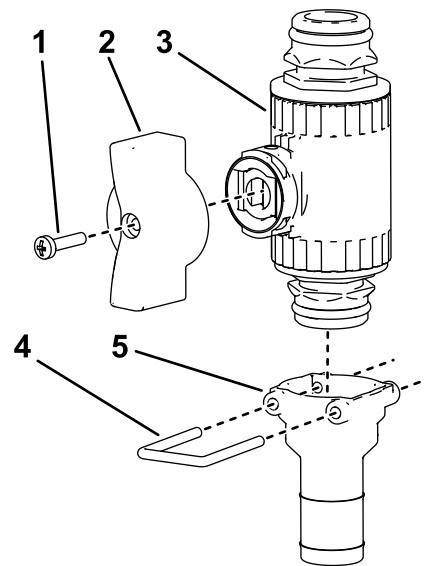

Figure 31
12. Assemble the straight fitting to the other straight control valve using the retainer as shown in Figure 31.